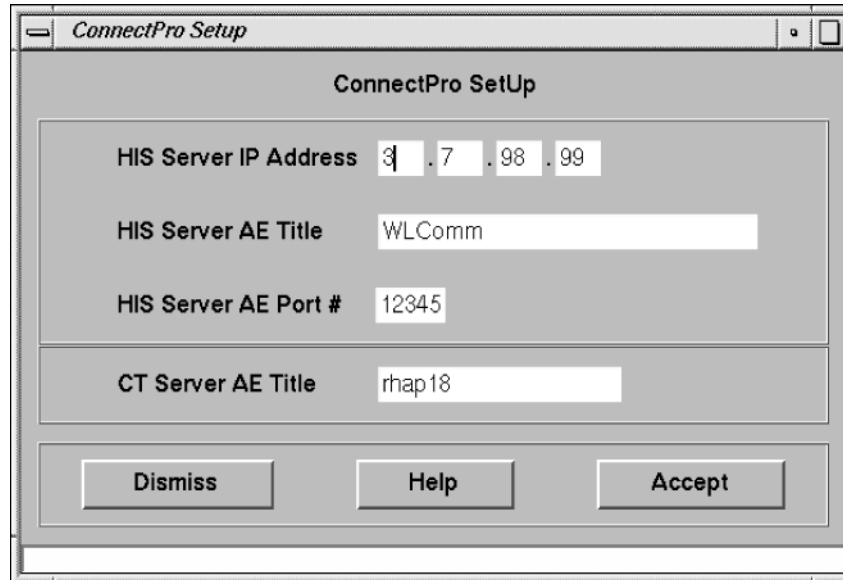

Figure 7-8 ConnectPro Setup Screen
- the console displays the ConnectPro Setup window as shown in Figure 7-8.